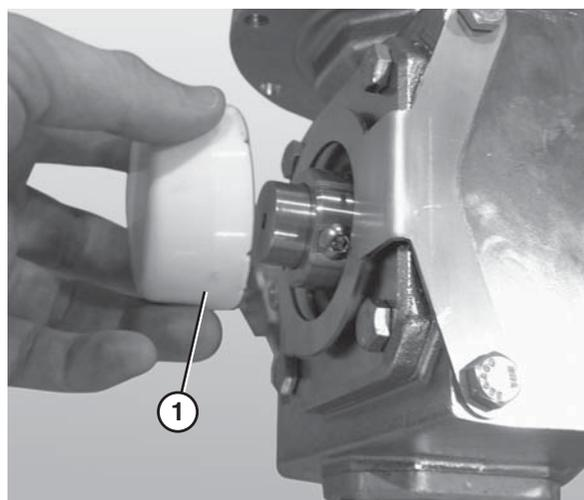

Figure 16
6. Attach the gearmotor cover (**Figure 16, item 1**).